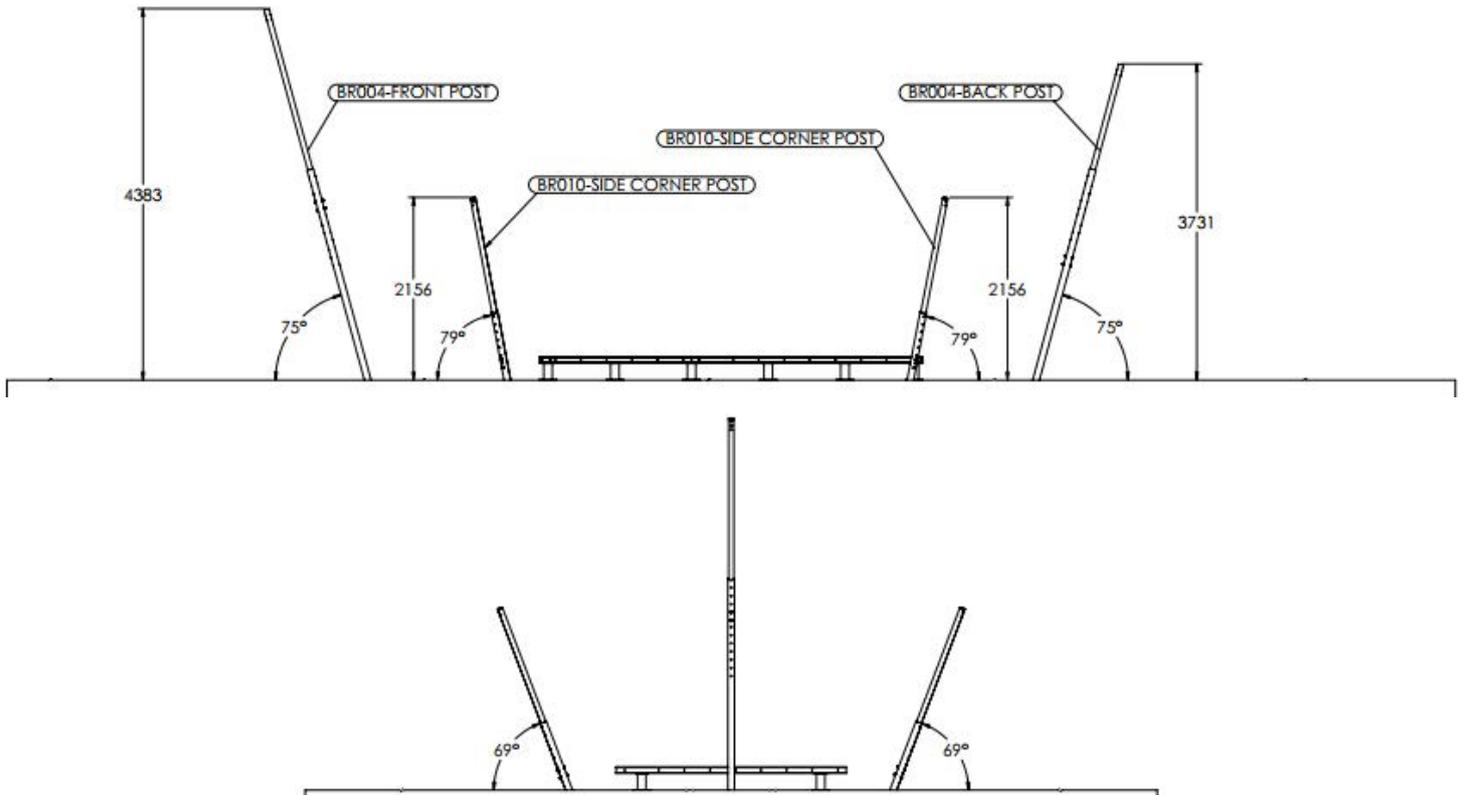

Figure 8: posts height
2. Check each post to ensure the height from the ground matches the dimensions shown in Figure 8.